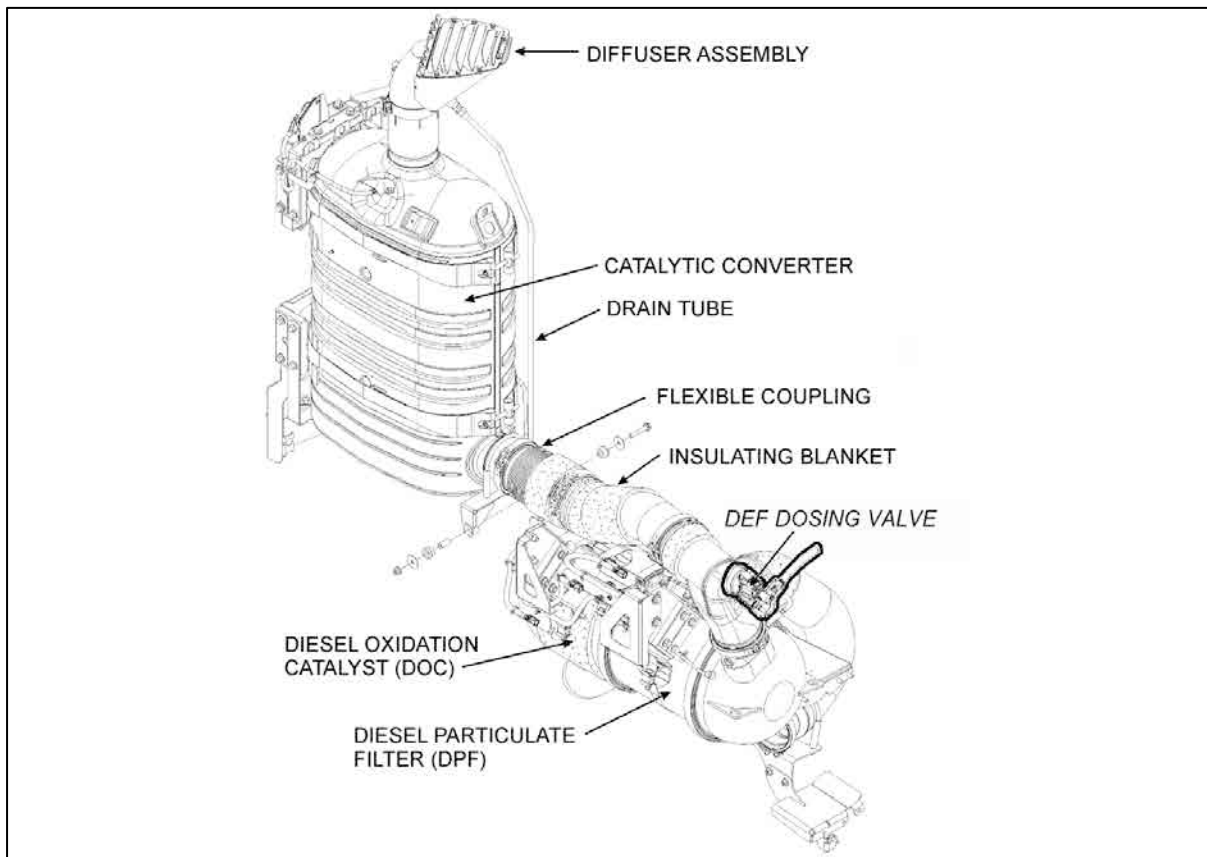
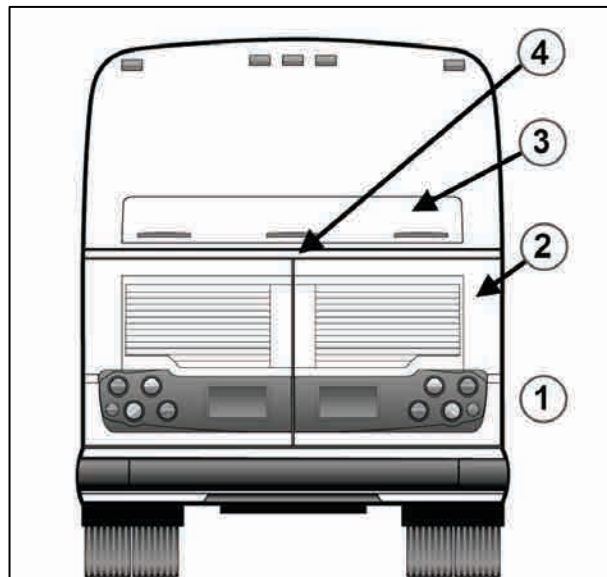
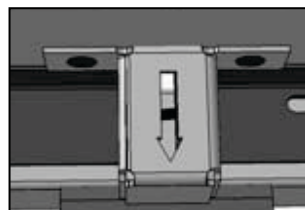

Figure 1: Exhaust System overview
Figure 2: Door opening sequence
Figure 3: Latch release
To open the engine compartment rear doors, open the engine compartment curb side door (1, fig. 1).
Open the rear engine doors (2, fig. 1)
2. Open the Exhaust aftertreatment access door (3, fig. 1) by lowering the latch release bar (4, fig. 1) & (Fig. 2) with the help of a screwdriver. (Fig. 3)